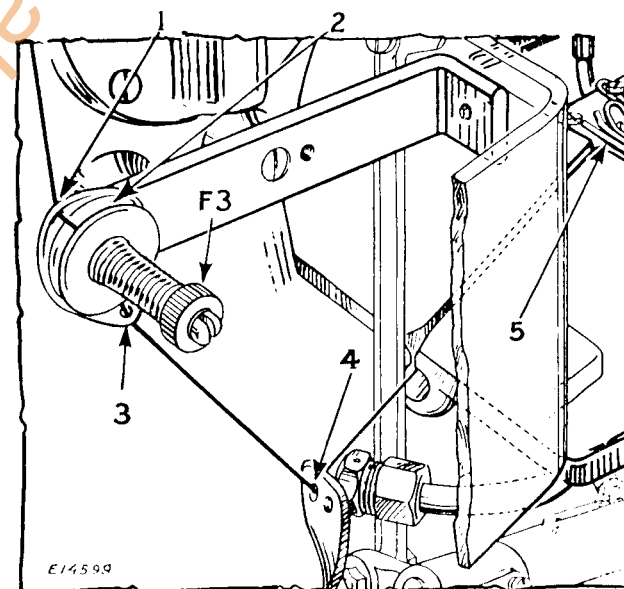
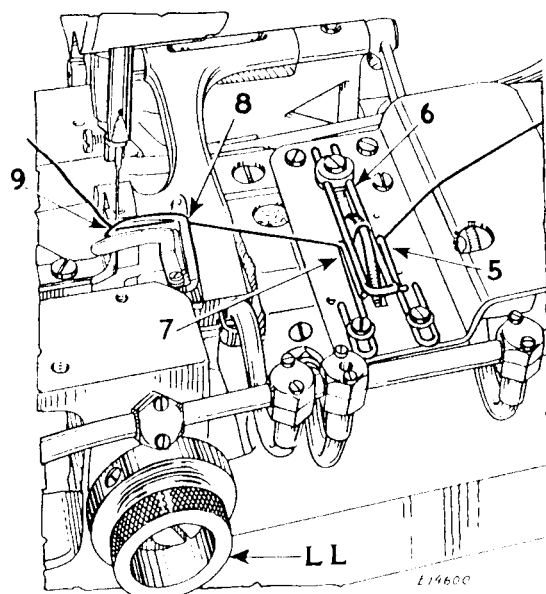
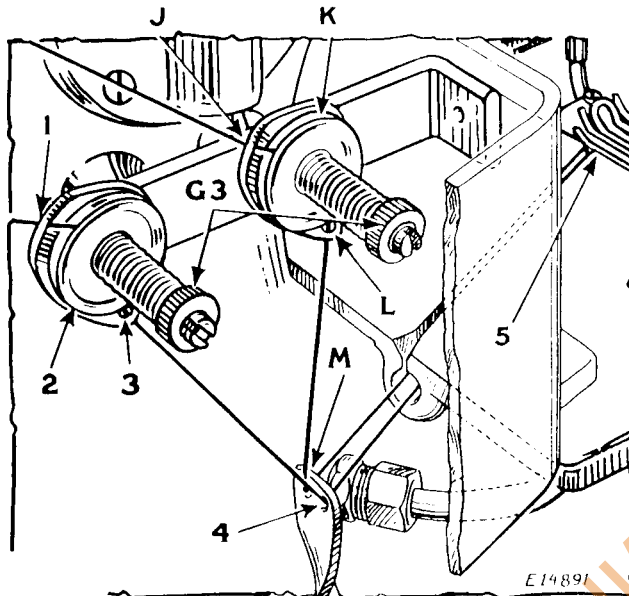

Fig. 6. Threading the Looper on Machine 147-88
Fig. 7. Threading the Looper on Machine 147-83
Fig. 9. Threading the Loopers on Machines 147-110 and 147-111
(See Figs. 6 and 7)
Remove the right hand slide plate; turn the balance wheel over from you until the needle bar is at its lowest position, then turn the knob (LL, Fig. 7, page 12) to the left as far as it will go, thus placing the looper in "throw-out" position for convenient threading.
Pass the thread from the unwinder through the eyelet (1, Fig. 6) in the thread tension guide at the rear side of the machine, over between tension discs (2), through the eyelet (3) in the tension thread guide, and down through eyelet (4) in the thread guide at the rear side of the machine. Pass the thread through the hole in the cloth plate guard and through the slot in the cloth plate. Then pass the thread through eyelet (5, Fig. 7, page 12), under the stripper (6), through the eyelet (7), through the
Allow about two inches of thread to hang from the eye of the looper with which to commence sewing, and turn the knob (LL, Fig. 7) back into sewing position.
(See Figs. 9 and 10)
of the thumb nut (F3, Fig. 6, page 11), and on Machines 147-110 and 147-111 by means of the two thumb nuts (G3, Fig. 9, page 14). For more tension turn these thumb nuts inward, toward the machine, or turn these thumb nuts outward, away from the machine, for less looper thread tension. The tension on the looper threads should be very light.